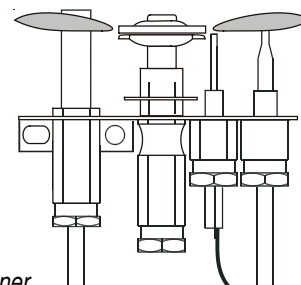

Figure 8. Pilot Burner
22. Adjust pilot screw to provide properly sized flame. To increase the flame, turn the screw counterclockwise. To decrease the flame, turn it clockwise. (The flame should impinge on the thermocouple and thermopile, as shown in Figure 8)